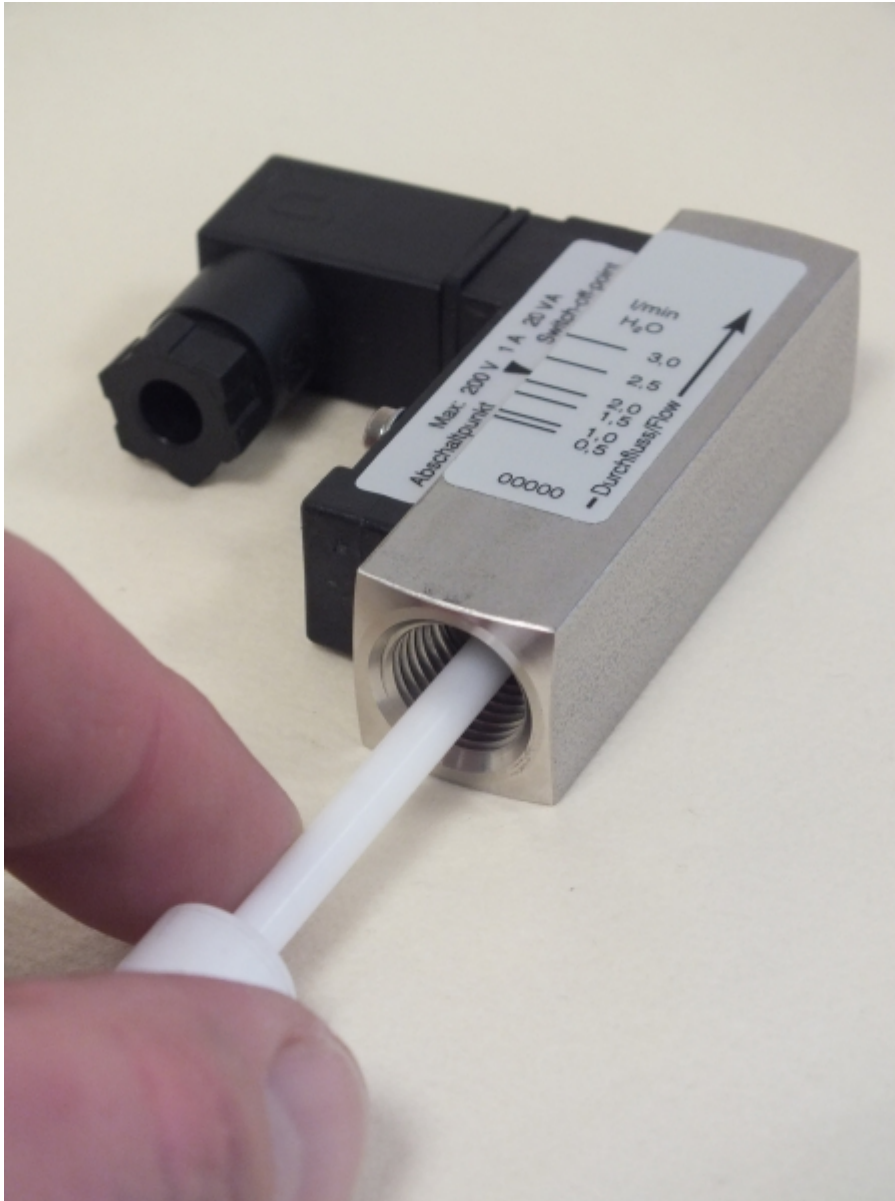

Fig. 49: Check for smooth operation
7. Check the float for ease of movement (Fig. 49) by applying pressure with the test rod